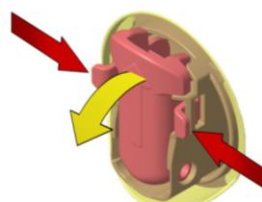

Fig. 3
- simultaneously remove the top part of the lever as indicated by the yellow arrow fig. 3